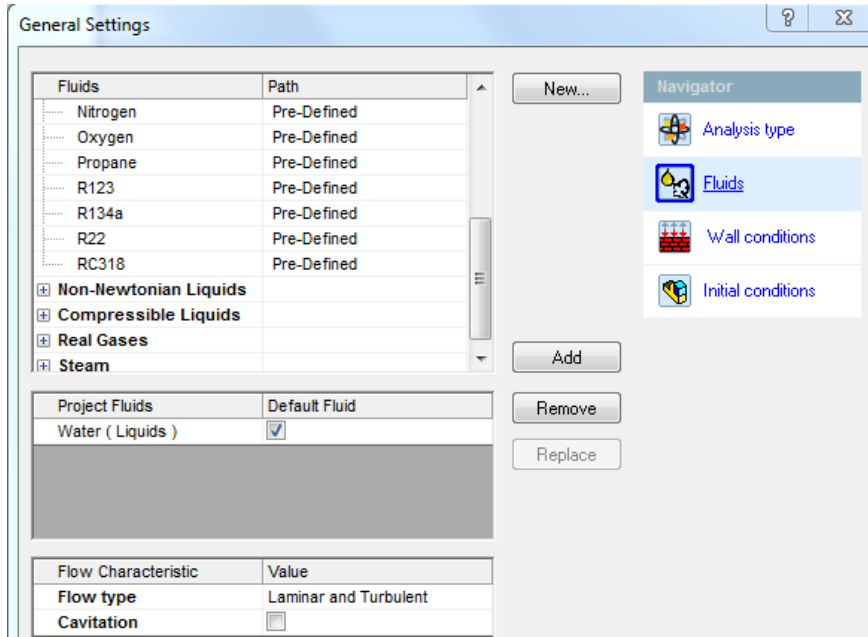

Figure 2.27d) Selection of fluid and flow type
29. In the next step, we will clone the project. Select **Flow Simulation>>Project>>Clone Project...** Enter the Project Name “**Flat Plate Boundary Layer Study Using Water**”. Select **Create New Configuration** and exit the **Clone Project** window. Next, change the fluid to water in order to get higher Reynolds numbers. Start by selecting **Flow Simulation>>General Settings...** from the SolidWorks menu. Click on **Fluids** in the **Navigator** portion and click on the **Remove** button. Select **Water** from the **Liquids** and **Add** it as the **Project Fluid**. Change the **Flow type** to **Laminar and Turbulent**, see figure 2.27d). Click on the **OK** button to close the **General Setting** window.